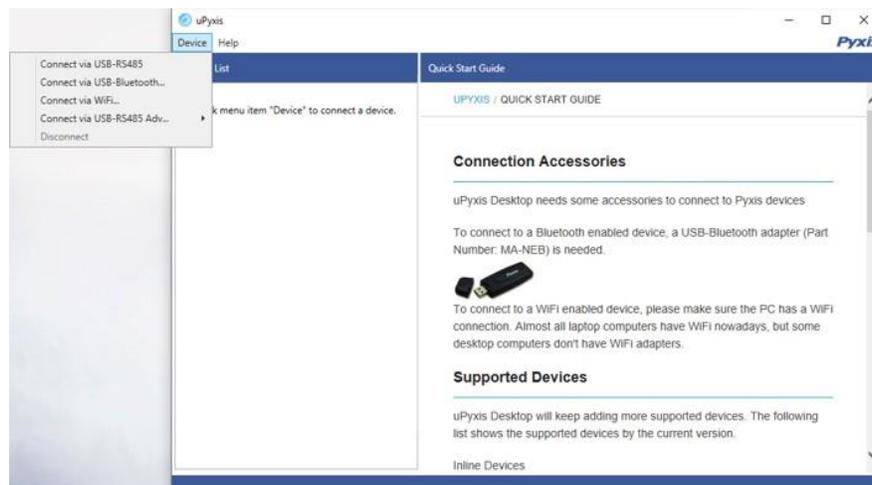

Figure 13.
3. On **uPyxis®** Desktop App, click Device→ **Connect via USB-Bluetooth** or **Connect via USB-RS485** (Figure 13).
4. If the connection is successful, the ST-525 Series and its Serial Number (SN) will be displayed in the left pane of the **uPyxis®** window.